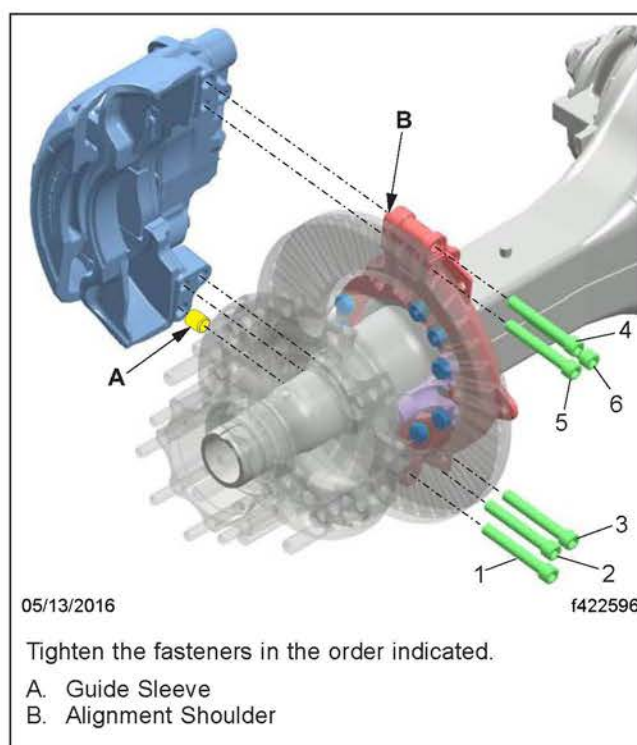

Fig. 5, Tightening Pattern
10. Align each caliper with the rotor by pushing the fixed pin side of the caliper against the shelf on the torque plate. See **Fig. 5**.
11. Tighten the carrier mounting bolts in two steps, using the pattern shown in **Fig. 5**. Initially tighten all six bolts 40 to 50 lbf-ft (54 to 68 N·m). Perform the final torque spec of 180 to 200 lbf-ft (244 to 271 N·m).
11. Align each caliper with the rotor by pushing the fixed pin side of the caliper against the shelf on the torque plate. See Fig. 5 on page 10.
12. Tighten the carrier mounting bolts in two steps, using the pattern shown in Fig. 5 on page 10. Initially tighten all six bolts 40 to 50 lbf-ft (54 to 68 N·m). Perform the final torque spec of 180 to 200 lbf-ft (244 to 271 N·m).